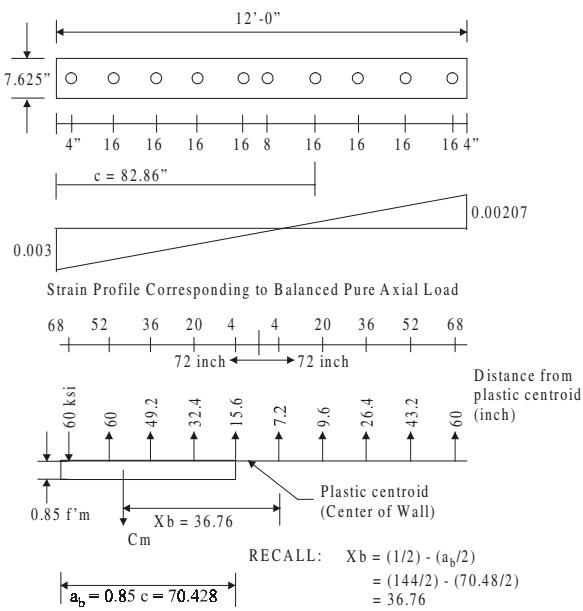

Figure 11-29. Balanced design load condition
5. Nominal balanced design axial strength (P_b): See Figure 11-29.
7. Nominal balanced design moment strength (M_b): See Figure 11-29. Take sum of moments about plastic centroid (center of wall):